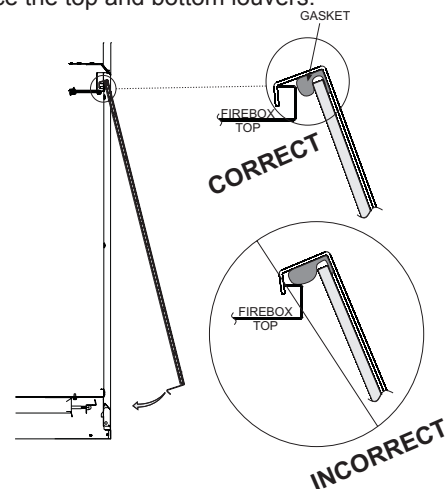

Figure 75
1. When installing the Glass Door assembly, make sure that the door top flange is hooked over the firebox top flange as illustrated in the "Correct" view in Figure 75.
Important: Do not allow the gasket across the top of the door to roll up on top of the firebox flange as shown in "Incorrect" view in Figure 75.